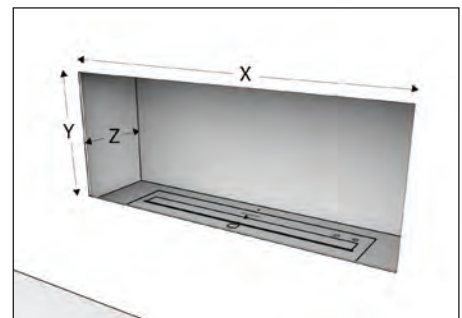

ABB. 1
A. FIREBOX ABMESSUNGEN FÜR INSTALLATIONEN "IN EINER FIREBOX" (ABB. 1)